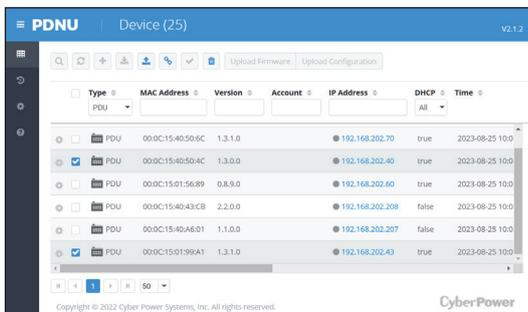

Figure 5. Equipment List
Step 1. Select the appropriate PDU device from the Equipment List and then click **Connection** button on the top tools list to set up. (Shown in Figure 5).